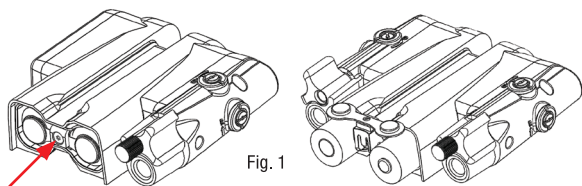

Fig. 1
Step 2 - Hold LBC upright with battery contacts on top. To release the battery contacts, gently press down on the center of the contacts to disengage the locking mechanism (see figure 1). As pressure is released, the contacts will extend outward. Once extended, the contacts will pivot 90° upward making way for battery insertion.